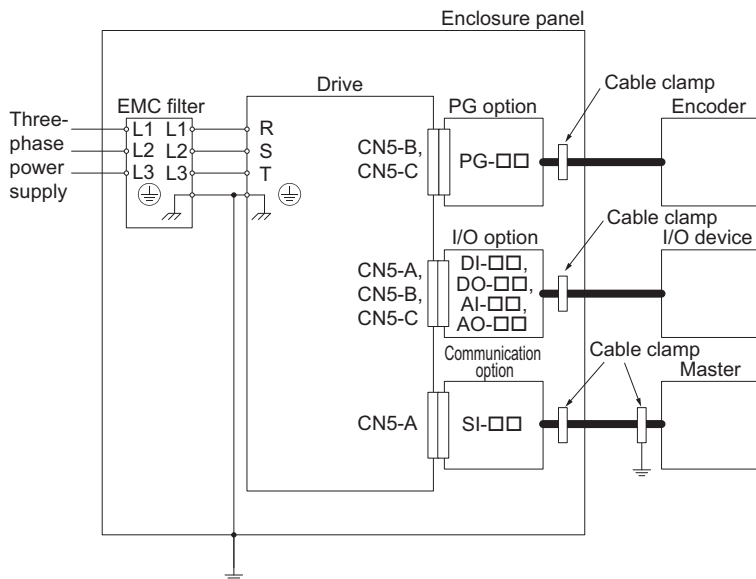
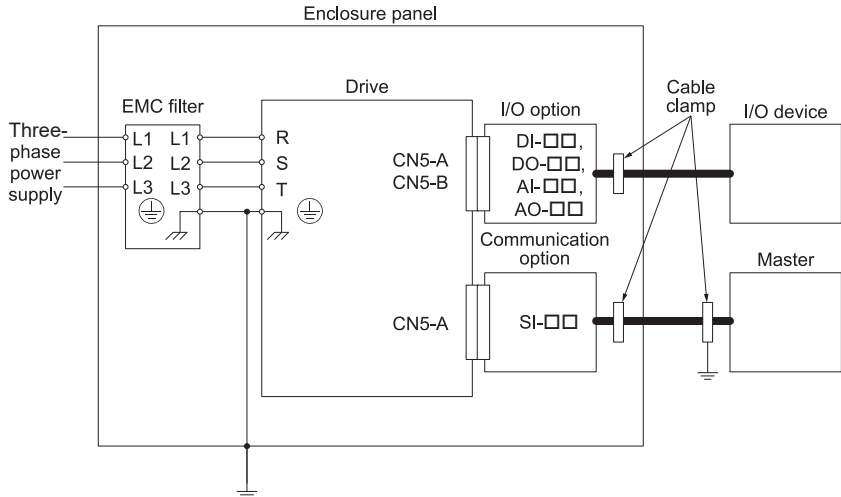

Figure 29 Option Installation for CE Compliance: 1000-Series, GA700, GA800, CR700, CH700, LA700
Figure 30 Option Installation for CE Compliance: FP605
2. Keep wiring as short as possible and ground the largest possible surface area of the shield to the metal panel according to Figure 29 and Figure 30.